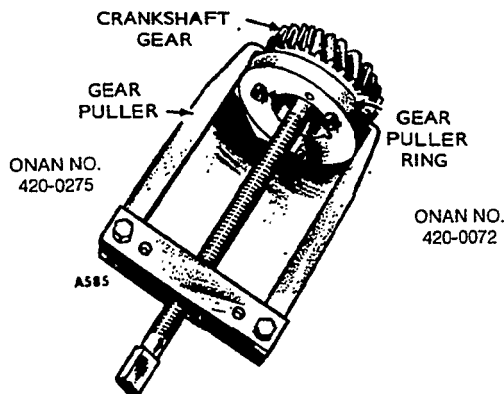

FIGURE 115. REMOVING CRANKSHAFT GEAR
2. Pull off crankshaft gear. It has two 1/4-20 UNC tapped holes for attaching a gear pulling ring. Use care not to damage teeth if the gear is to be reused. See Figure 115.